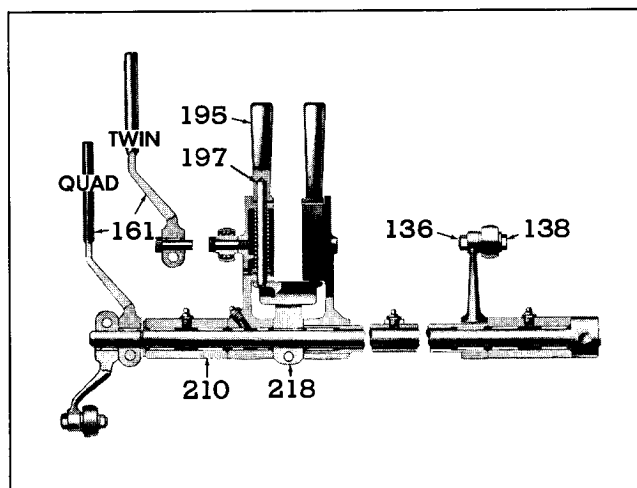
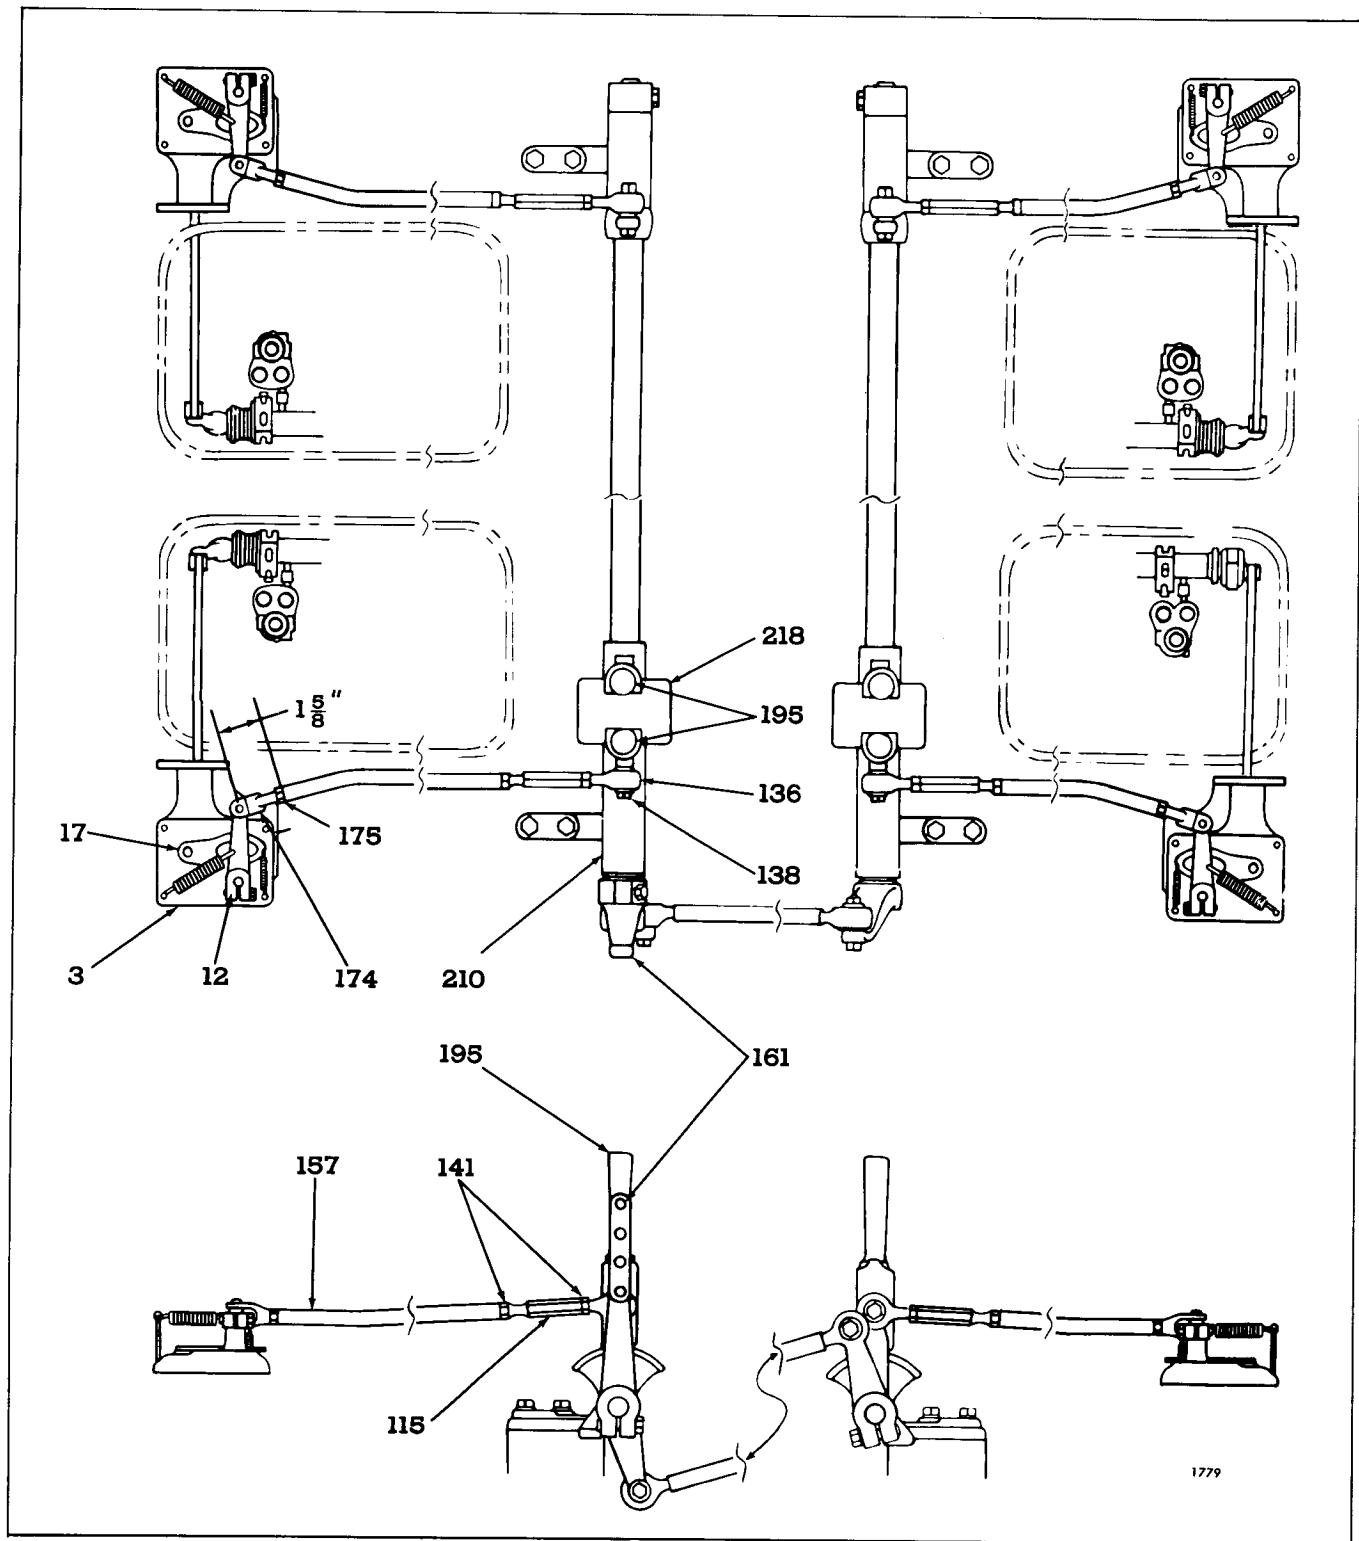

Fig. 1 - Throttle Control Shaft Assembly -
Fig. 2 - Diagram of Throttle Control Linkage for Quad Units with Limiting Speed Mechanical Governors
Therefore, disconnect the control rods (157), Fig. 2, from control levers (12) and perform the tune-up procedures for single engines before adjusting the throttle control linkage. Then, with engines stopped and valve covers removed:
1. Check the two levers on top of each governor for vertical alignment (i.e. one exactly over the other). If the levers are not in alignment, adjust the top lever (12), Fig. 2, on its shaft until the alignment is correct.
2. Make sure that the individual throttle control levers (195) are latched to their quadrant (218) by positioning pin (197), Fig. 1.
3. Move the master throttle control lever (161) to the FULL FUEL position.
4. Make sure each control lever (12), Fig. 2, is in the FULL FUEL position. The pin of the lever (12) must be just touching the end of the slot in cam (17).
5. If the governor control levers are not in the FULL FUEL position, loosen the two turnbuckle nuts (141) and adjust turnbuckles (115) until all levers are in their FULL FUEL position, see Figs. 2 and 3.
6. Tighten the turnbuckle lock nuts (141) and check the position of lever (12). When tightening the lock nuts, be careful not to "cock" the end bearing (136), Figs. 2 and 3.
7. Move the master control lever (161) to the IDLE position and start the engines.